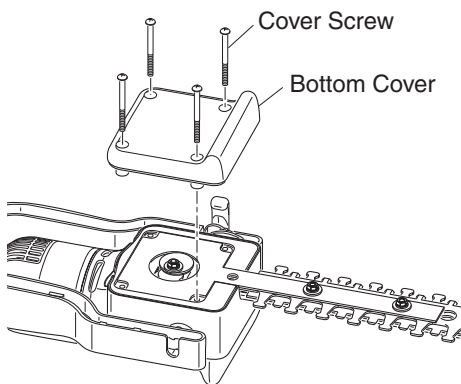

Figure 18 - Removing Bottom Cover from Trimmer Head
2. Place pole trimmer upside down on workbench and remove the four (4) bottom cover screws. Lift bottom cover off (see Figure 18).
10. Replace the bottom cover and secure with the 4 bottom cover screws removed in step 2 (see Figure 18). Tighten screws securely.